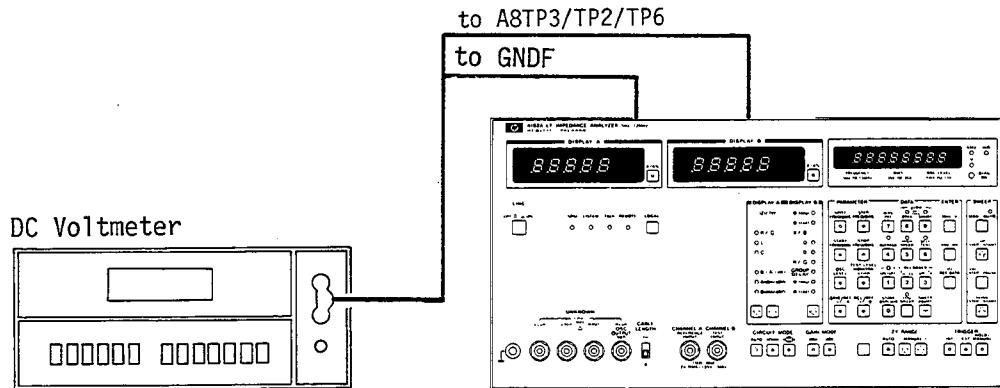

Figure 5-2. A8 DC Bias Check and Adjustment Setup.
- Connect the high lead to A8TP3 and the low lead to "GND" next to A8TP3 as shown in Figure 5-2.
**ADJUSTMENT****(2) Zero Bias Adjustment**
**(3) Gain Adjustment**